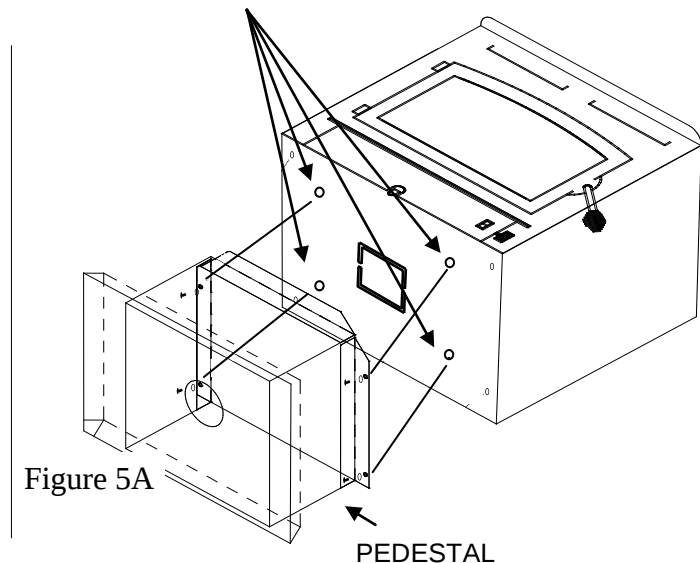

Figure 5A
6. **(Pedestal Kit):** If pedestal kit is being used and outside air is required for residential free standing installation see page 29, *Out Side Air Installation*. Open freestanding kit and obtain stand. Place stand against bottom of heater (angle side to heater). Center stand front to rear and also center stand left and right. Mark screw locations on bottom of stove through outer holes of stand mounting angles. Set stand aside and drill four 7/32" holes in heater bottom. Then mount stand to bottom of heater with screws provided. (See Figure 5A).
7. Obtain four (4) 3/16" self-tapping screws and secure stand to heater.